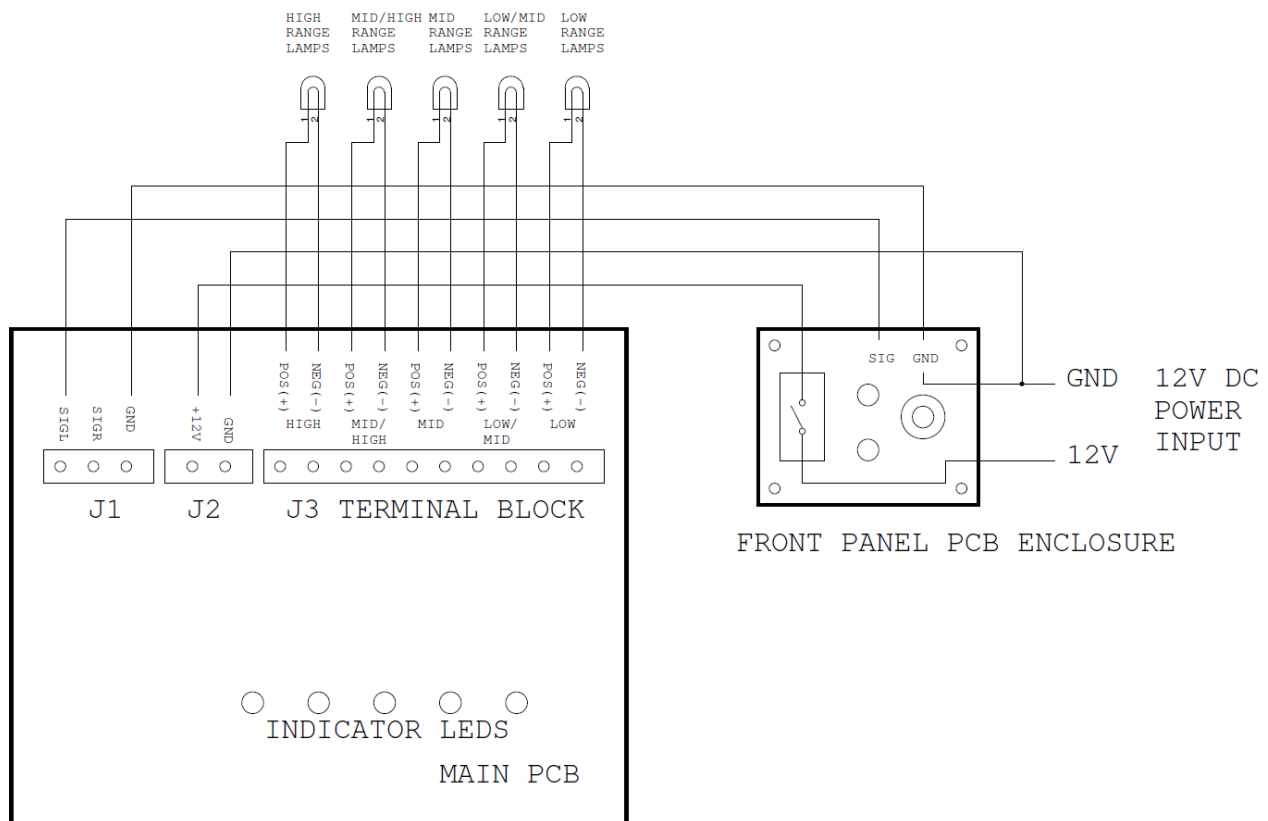

Figure 5. System Installation Wiring Diagram
Now you're ready to mount and wire up the light organ assemblies in your car. Refer to Figure 5 for the system level wiring diagram. This diagram shows how the PCBs are wired together, as well as the wiring of the DC power, and the lamp circuits. Follow these steps to complete your enclosure wiring:
3. Connect the +12V and ground wires from your car power to the front panel assembly, as shown in Figure 5, using 18ga or larger wire. If connecting directly to the battery, add an inline 10A fuse near the battery.
5. Connect each of your lamp circuits as shown in Figure 5. If you're using LED based lighting, pay attention to the polarity.
Double check your wiring to make sure it matches the diagram in Figure 5. Now its time to power up your light organ for the first time. **This is a very critical step.** This is when any un-detected assembly errors, such as backward electrolytic caps, could lead to very bad consequences. So use eye protection and stand clear of the main circuit board when you switch it on for the first time in case anything explodes. Be ready to turn it off again quickly if necessary.